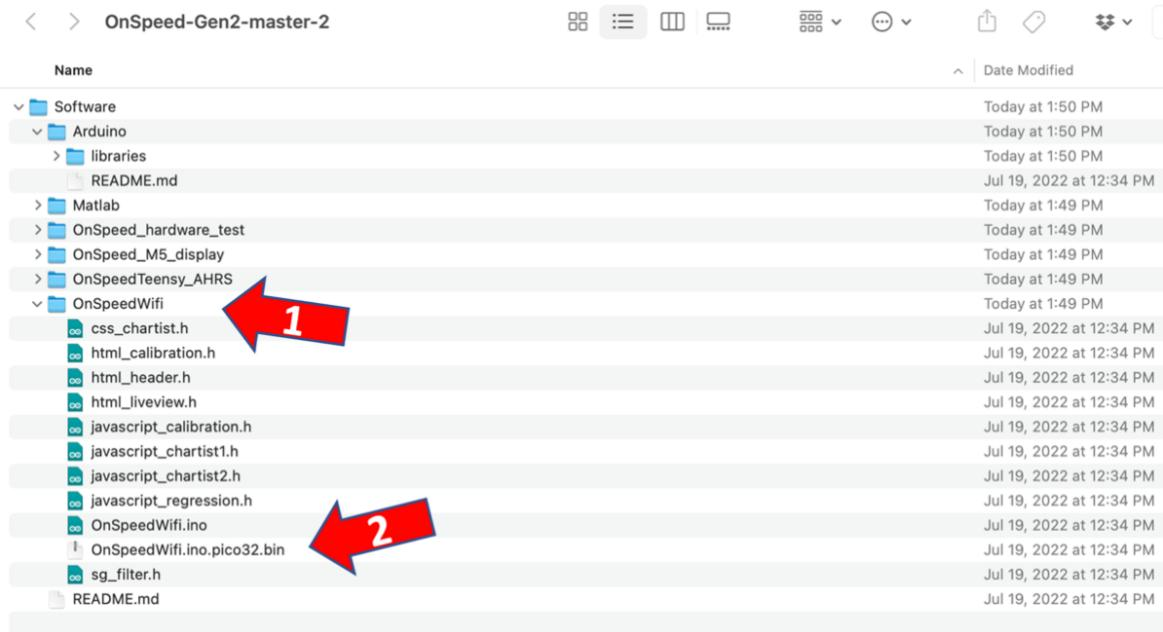
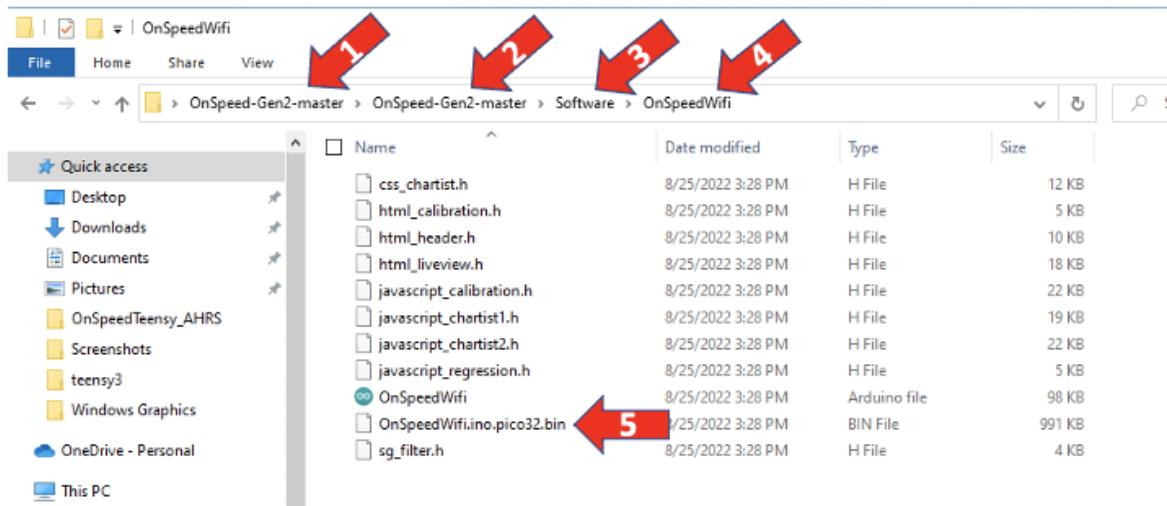

Figure 45. OnSpeedWiFi folder contents (Mac Finder).
Figure 46. OnSpeedWiFi folder contents (Windows File Explorer).
Open the downloaded OnSpeedWiFi folder (Figure 45 for Mac and Figure 46 for Windows).
1. Be sure to navigate to the “OnSpeedWiFi” folder to find the correct binary file for update (Figures 45 and 46). If the optional M5 visual display binary file is installed accidentally (by navigating to the wrong folder), call for tech support.